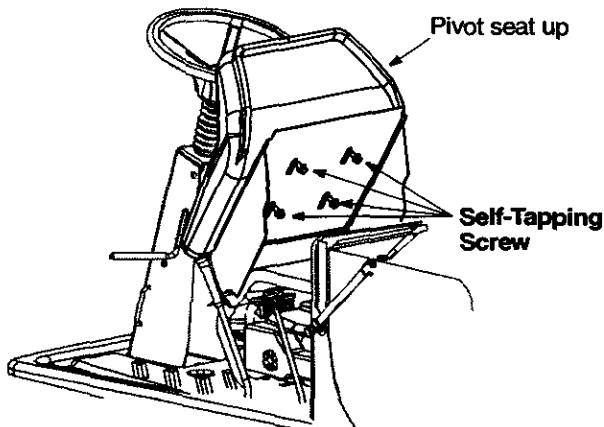

Figure 17
2. Pivot the seat up, as shown in Figure 17, to access seat hardware.
3. Using a 9/16" wrench or socket, loosen the four self-tapping screws on the bottom of the seat. See Figure 17.